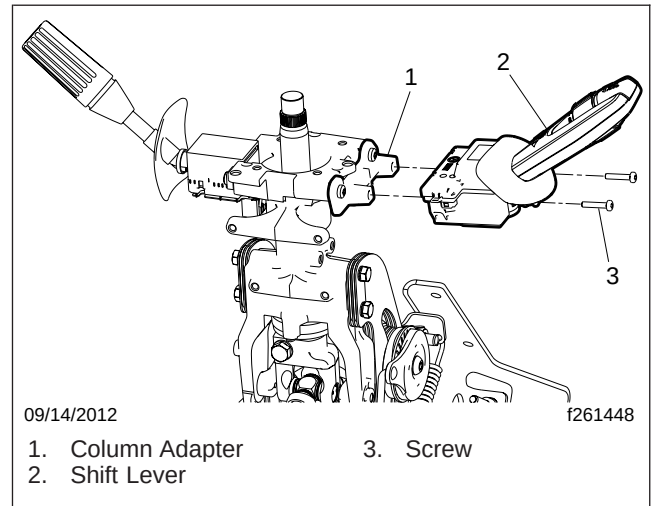

Fig. 2, Shift Control Lever Installation
4. Remove the fasteners that attach the shift control lever to the column adapter. See Fig. 2.
2. Install the shift control lever on the column adapter. Tighten the screws 590 to 740 lbf·in (800 to 1000 N·cm). See Fig. 2.